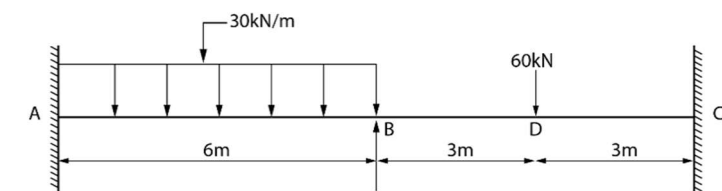

FIG. NO. 4
- ii. Find the support moments and draw BMD for the continuous beam shown in the Fig. No. 4, by slope deflection method. **8**